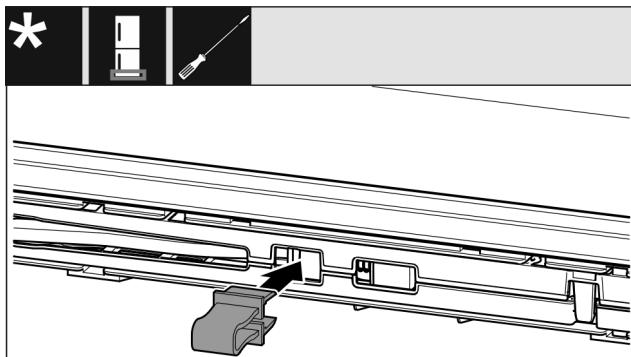

Fig. 16
- ▶ Snap the locking device into the opening. (see Fig. 16)